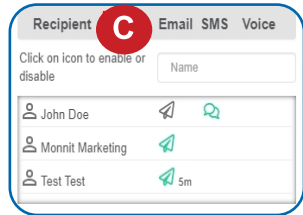

Figure 18
C. The **Recipient** list identifies who will receive the notification. See Figure 18.